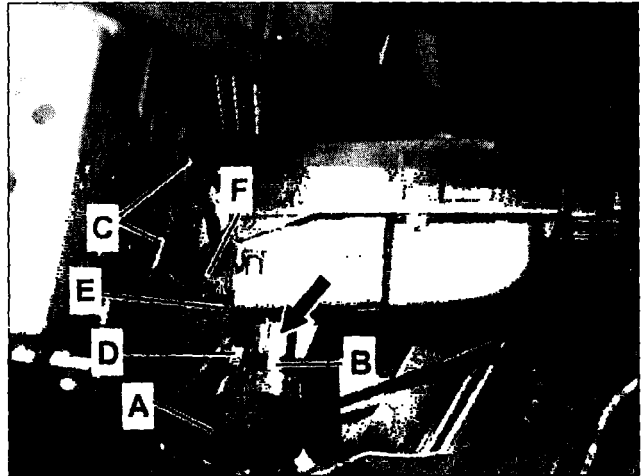

Figure 19
18. Secure SBC wiring harness (A, Figure 19) (**excluding** ground wires) to the SBC connector cover receptacle (arrow) using a new cable tie (B).
- Ensure that the SBC wiring harness (A) is properly routed so that it is free of tension in the SBC connector housing.
- The cable tie "buckle" (D) **must be located at the side of the connector cover receptacle (arrow) as depicted.**